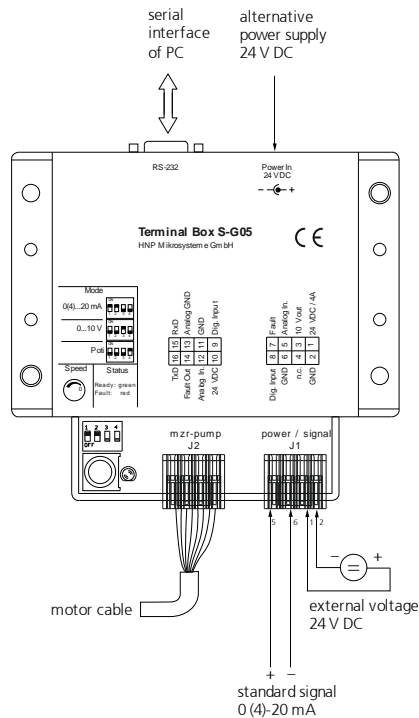

figure 15
4. Connect the external current source to the screw clamps »AnalogIn« and »GND« to the S-G05. (see figure 15).